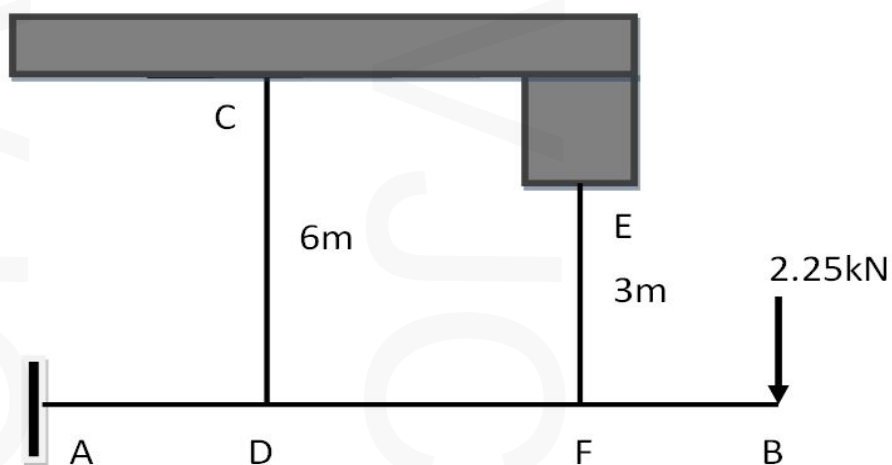

Figure 2
- 12 A rigid beam AB of length 2.4m is hinged at A and supported by two steel wires as shown in fig:2. The steel wire CD has a length 6m and diameter 12mm supports the beam at distance(AD) 0.6m from hinge A; the steel wire EF has a length 3m and diameter 3mm supports the beam at distance(BF) 0.6m from end B.. If the beam supports a concentrated load of 2.25kN at the end B, Calculate: